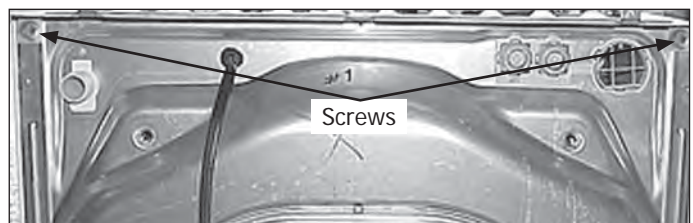

Figure 4-58.
3. Extract the two screws from the top of the rear brace and remove from unit. (See Figure 4-58)